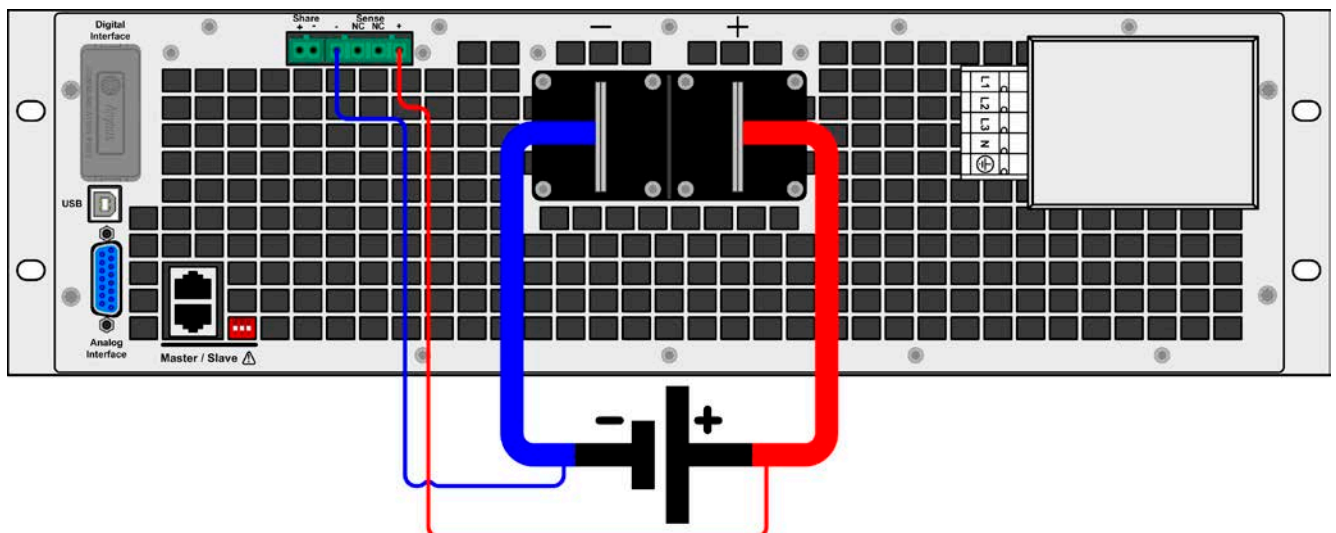

Figure 8 - Example for remote sensing wiring
- Sensing cables must be connected + to + and - to - at the source, otherwise the sense input of the electronic load can be damaged. For an example see *Figure 8* below.